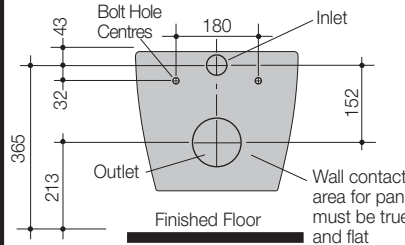

Fig.3
- 1 - Install Caroma bracket and pipework to specified dimensions, as detailed in **Fig.3**.